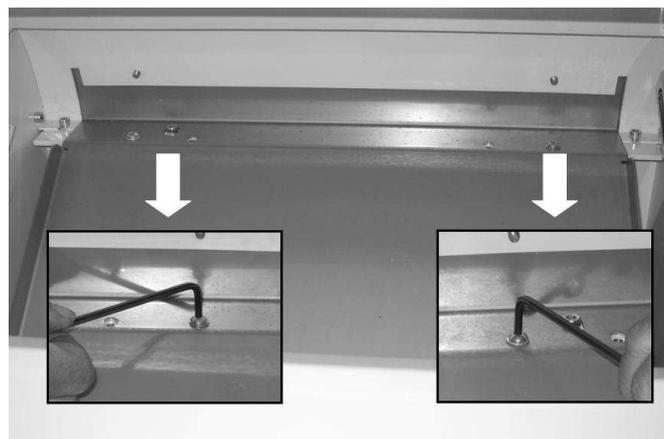

Figure 10
4. Inside the bread loading compartment and at the rear, remove the two screws that hold the slide inside the loading compartment, Figure 10.
26. Fix the two screws Figure 10 that secure the slide inside the loading compartment.